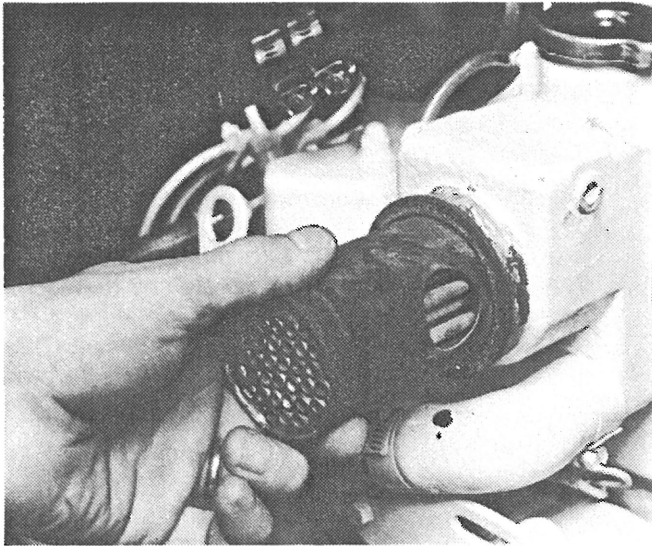

Figure 70 - Pull out core (L - M 753)
- c. Pull heat exchanger core out of housing on 753 only (figure 70). On the 843 and 854, clean the heat exchanger in place.